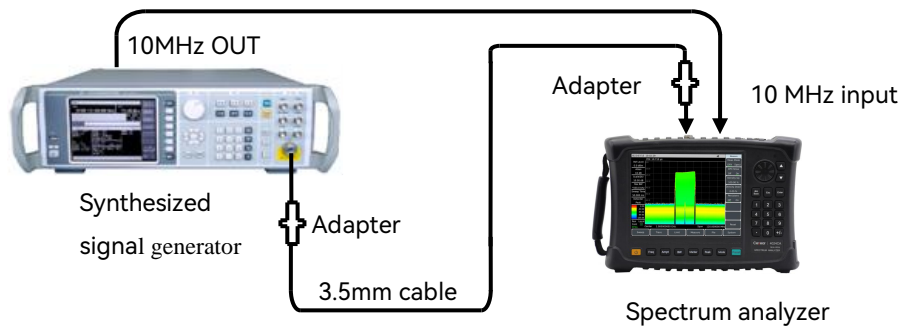

Figure 12-8 RBW conversion uncertainty test settings
1) Connect the equipment as shown in Figure 12-8. The synthesized signal generator 1464A provides frequency reference for the spectrum analyzer;